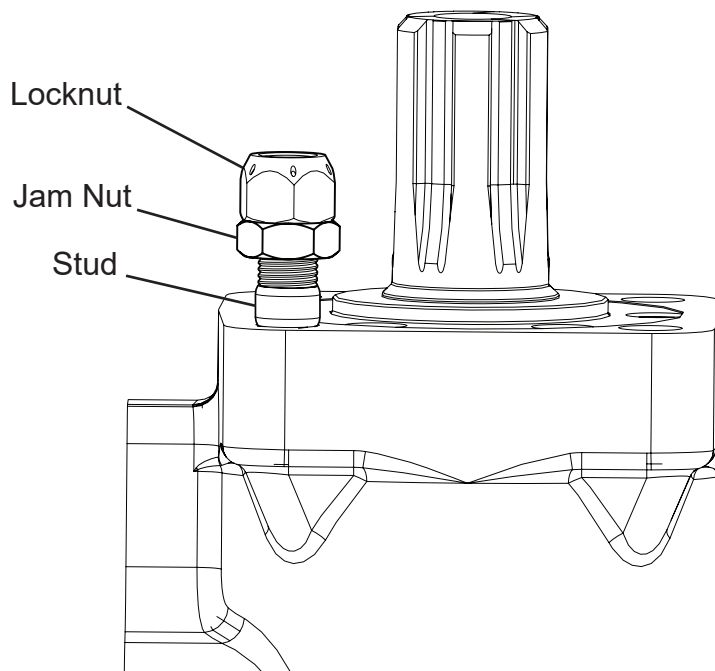

Figure 9
4. Apply one (1) drop of Loctite 263 in each stud mounting hole on the flange side of both motors. Do not apply more than one drop. Excessive Loctite in the holes of the motor will not allow the studs to install completely.
5. Apply Loctite 515 to the top of the flange on each motor (Figure 9). **DO NOT** get Loctite in the mounting holes. **DO NOT** get Loctite on the shaft seal.